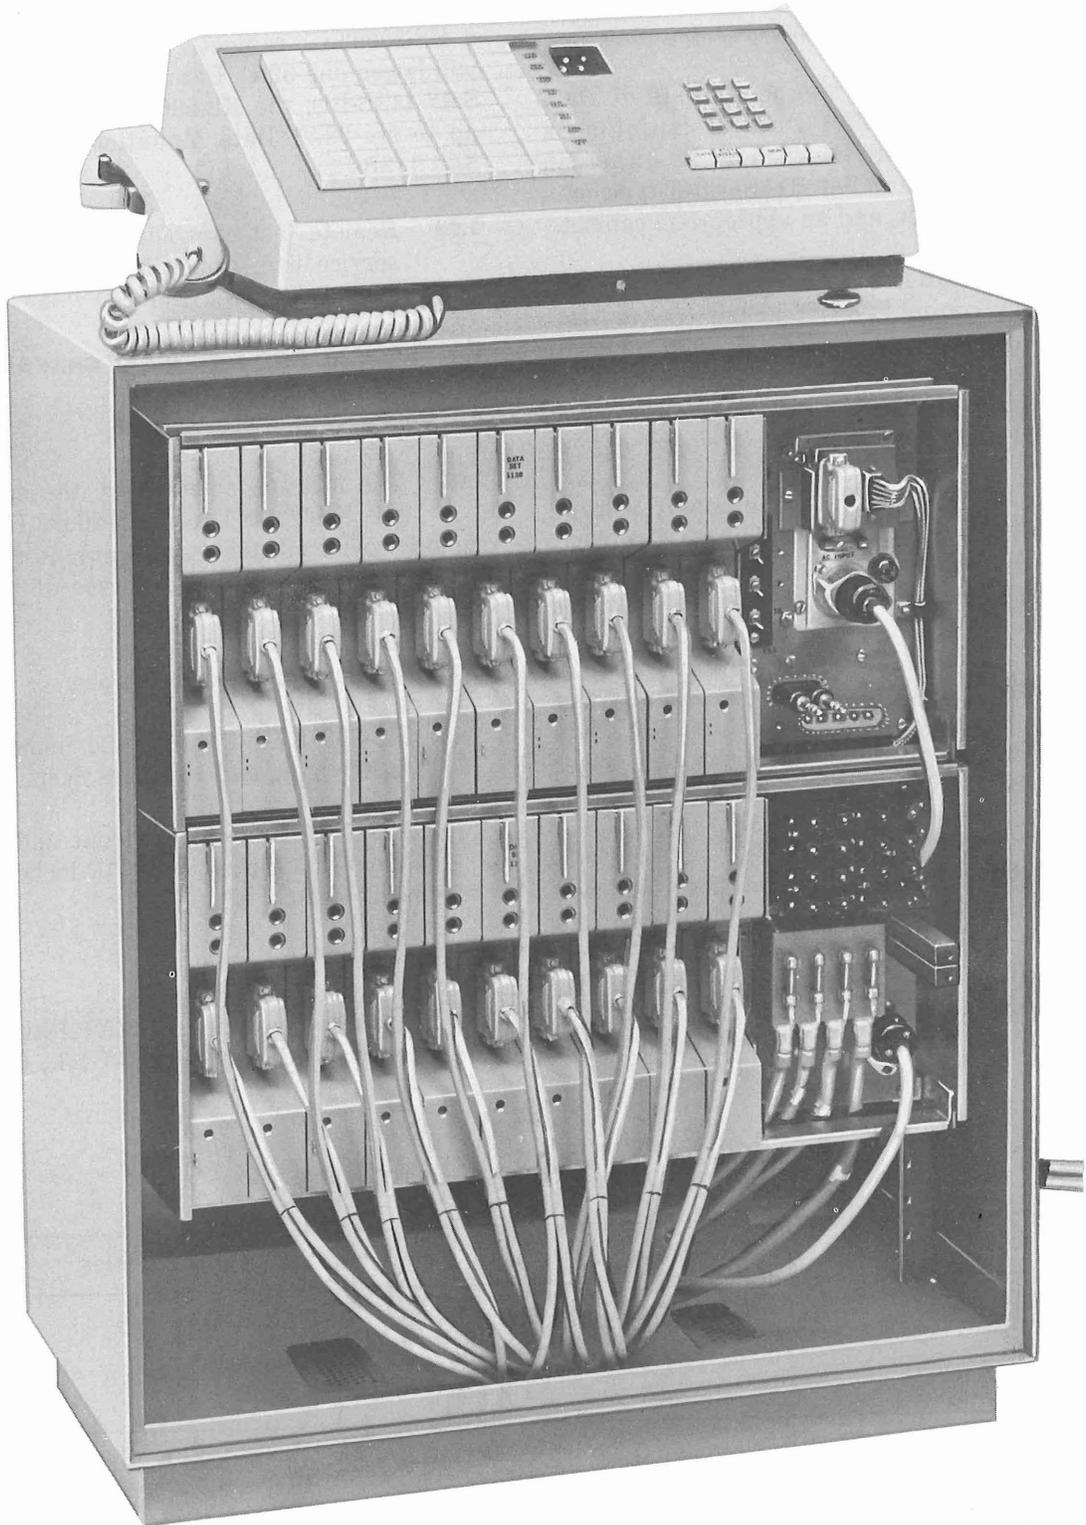

Fig. 1—113-Type Data Station Mounted in a KS-20018-L4 Cabinet—Panel Removed
1.06 The DAS 804T-type, which provides monitoring and control functions for up to 60 Data Sets 113B-L1, can be obtained as a surface mounted unit (Fig. 1) or as a flush mounted unit to be located in a customer console. In either case the desired color must be specified. See Table A for